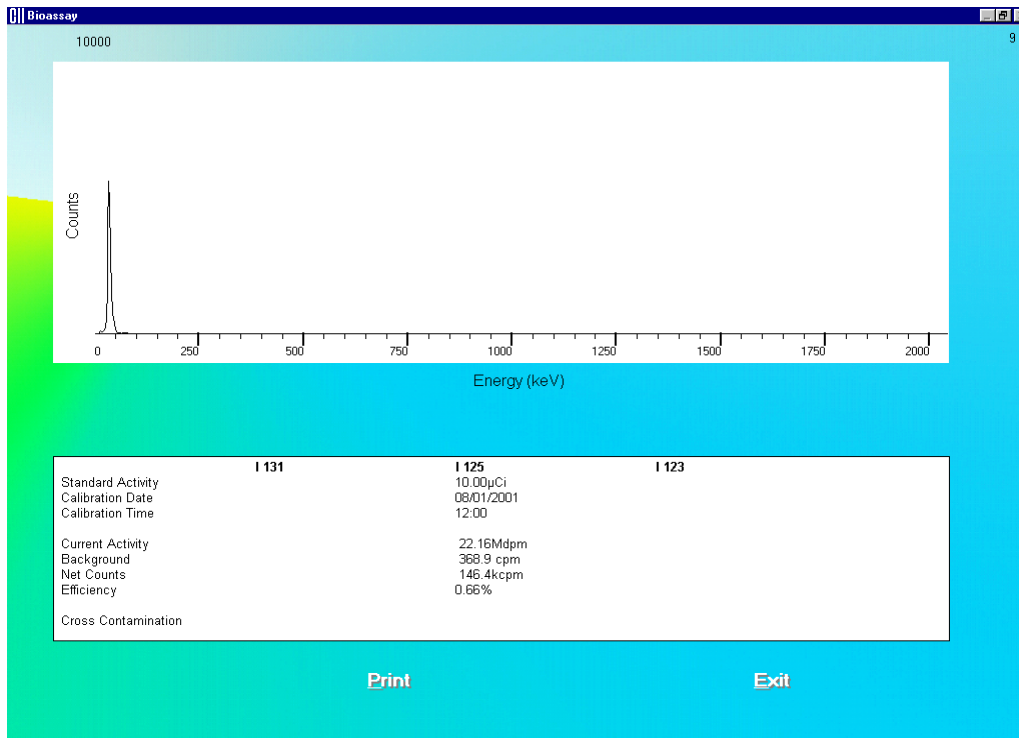

Figure 8-11
- x. After all measurements are completed, the screen shown in Figure 8-11 will appear. The results in the lower part of the screen show all measured counts and calculated values for activity and cross contamination.